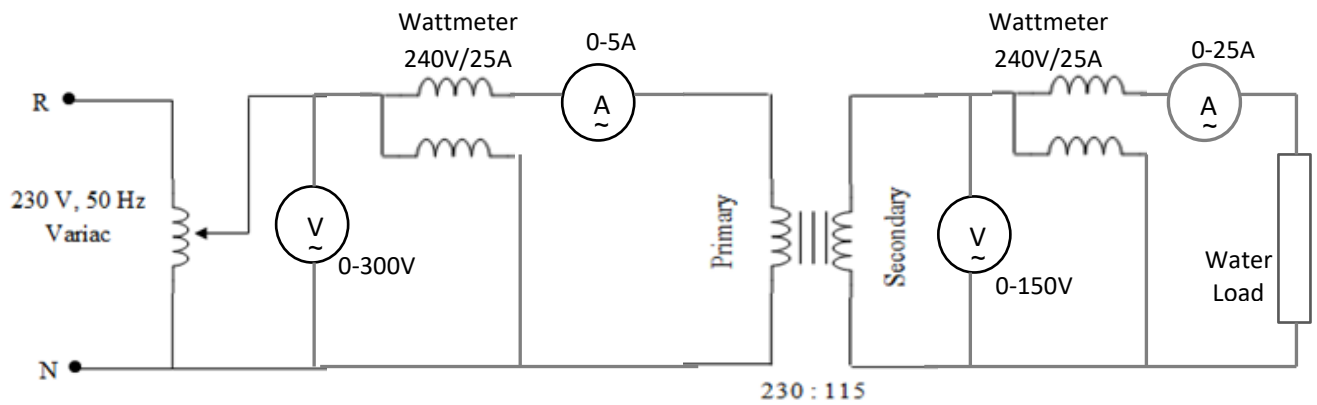

Figure 6: Load test circuit diagram
1. Connect the circuit as shown in figure 6 and set the variac to zero position.